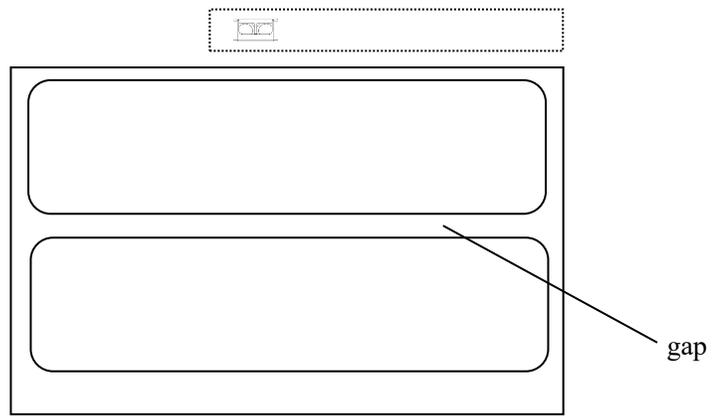

Figure 2-21
3. Slide the media sensor cap to adjust the position of the media sensor pointer (white arrow), making sure it is pointing to the label (see figure 2-21 and 2-22 for reference).